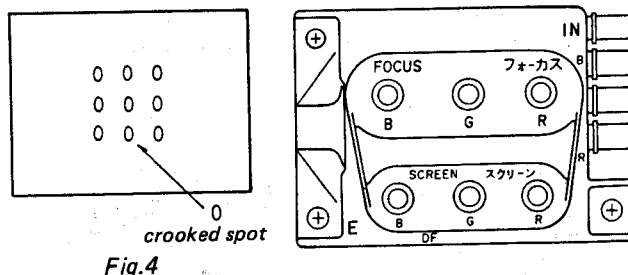

Fig. 4
3. Rotate the Red Focus VR of the focus pack clockwise, and defocus the SPOT as shown in Fig. 4. (So it stands out in the center of the screen.)